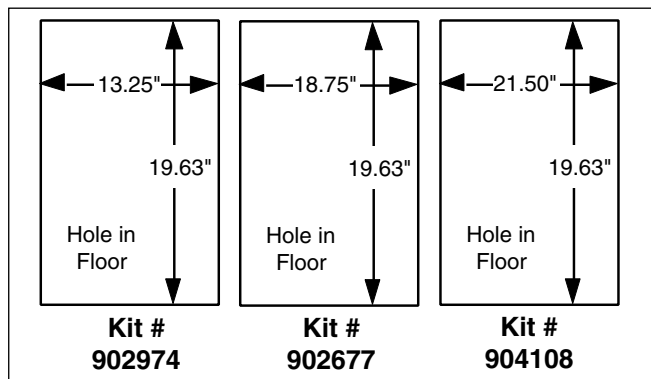

Figure 1. Opening in Wood Floor
1. Cut and frame the hole in the floor per the dimensions in Figure 1 and in Table 1.